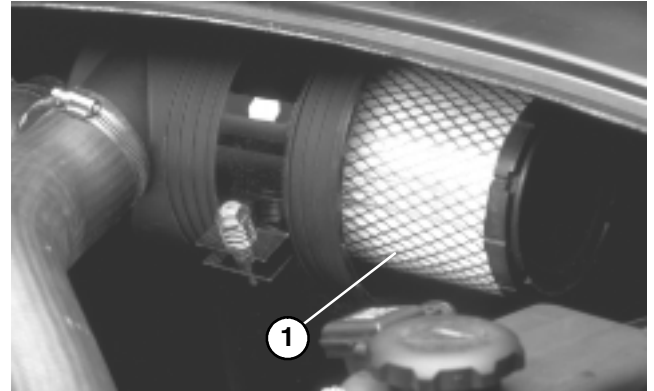

Figure 18
2. Gently slide filter (Fig. 18) out of air cleaner body to reduce the amount of dust dislodged. Avoid knocking filter against air cleaner body.